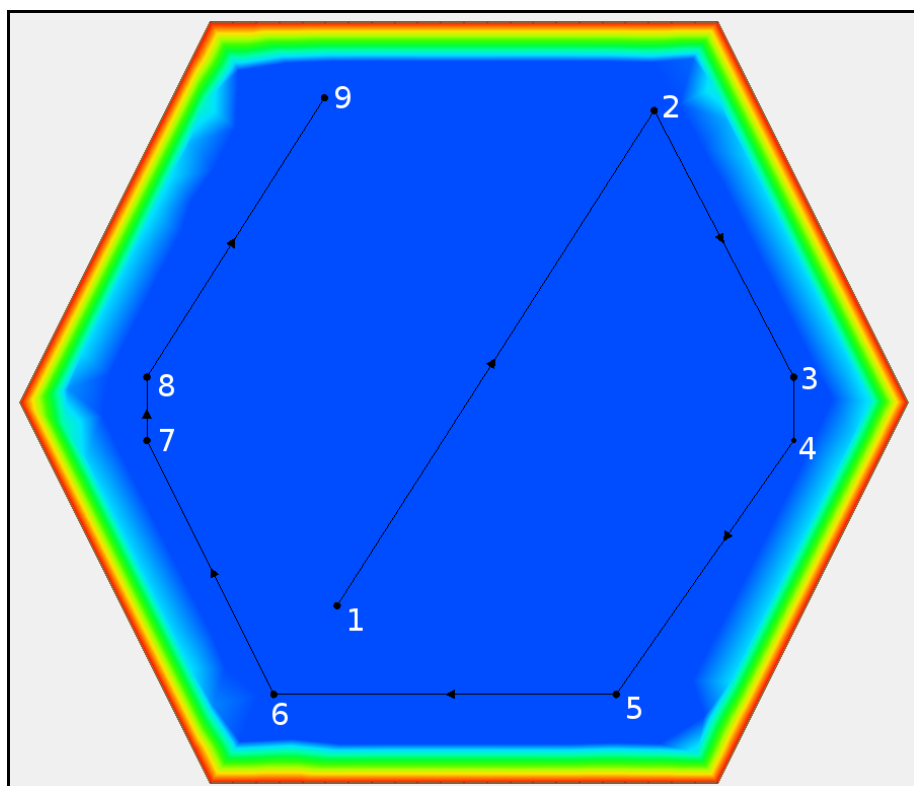

Figure 5 Nodes and vertices numbered
- Using the **Select Feature Vertex** tool, select the vertex closest to the coordinates in the table and change the coordinates in the Edit Window for that vertex according to the table. See Figure 5 for the number of each node or vertex.